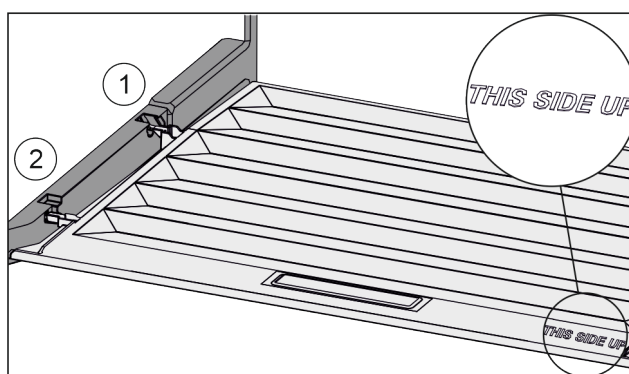

Fig. 125
- Insert the lip of the cover over the opening of the rear bracket Fig. 125 (1) and click into place Fig. 125 (2).